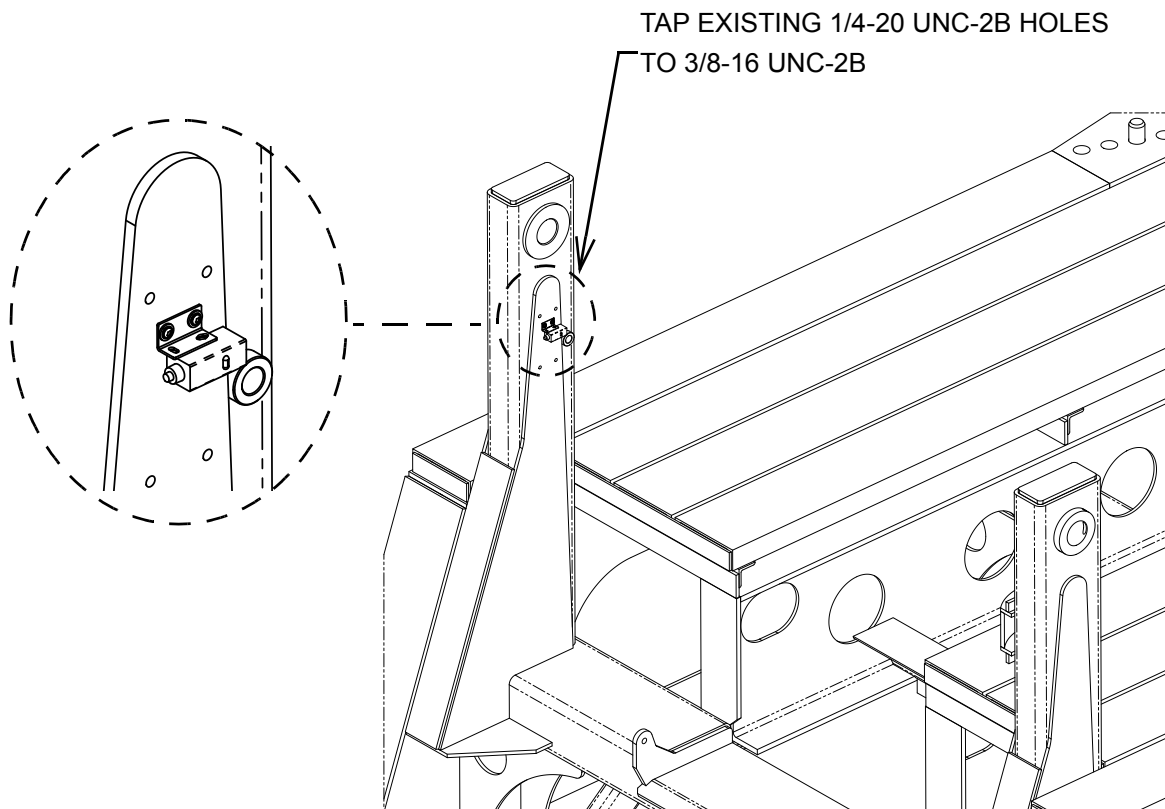

Figure 1: Ramp End Upright Post Before Upgrade
3. Match drill and tap the existing 1/4-20 UNC-2B hole patterns to 3/8-16 UNC-2B on the two ramp ends (Figure 1).